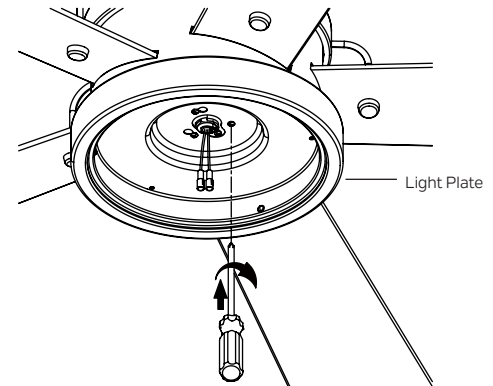

Fig. 20
Step 2. Place the two slot holes on the light plate over the 2 screws previously loosened from the mounting plate. Rotate the light plate until it locks in place at the narrow end of the key holes. Securely tighten the 2 screws previously loosened and the one previously removed. (Fig. 20)